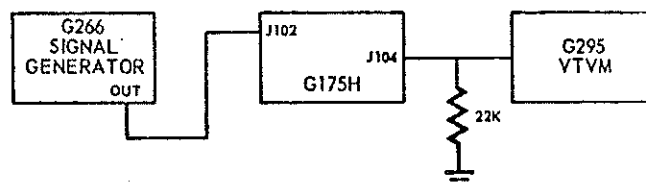

Figure 5-4.
- a. Set up equipment for test as shown in figure 5-4 and apply power.